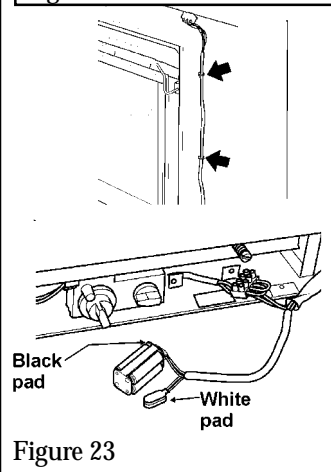

Figure 23
- Connect the battery box to the **black** connection pad. See figure 23.
- Place the battery box on the “Velcro” pad in front of the battery shield. Fit the leads into the clips. See figure 23.